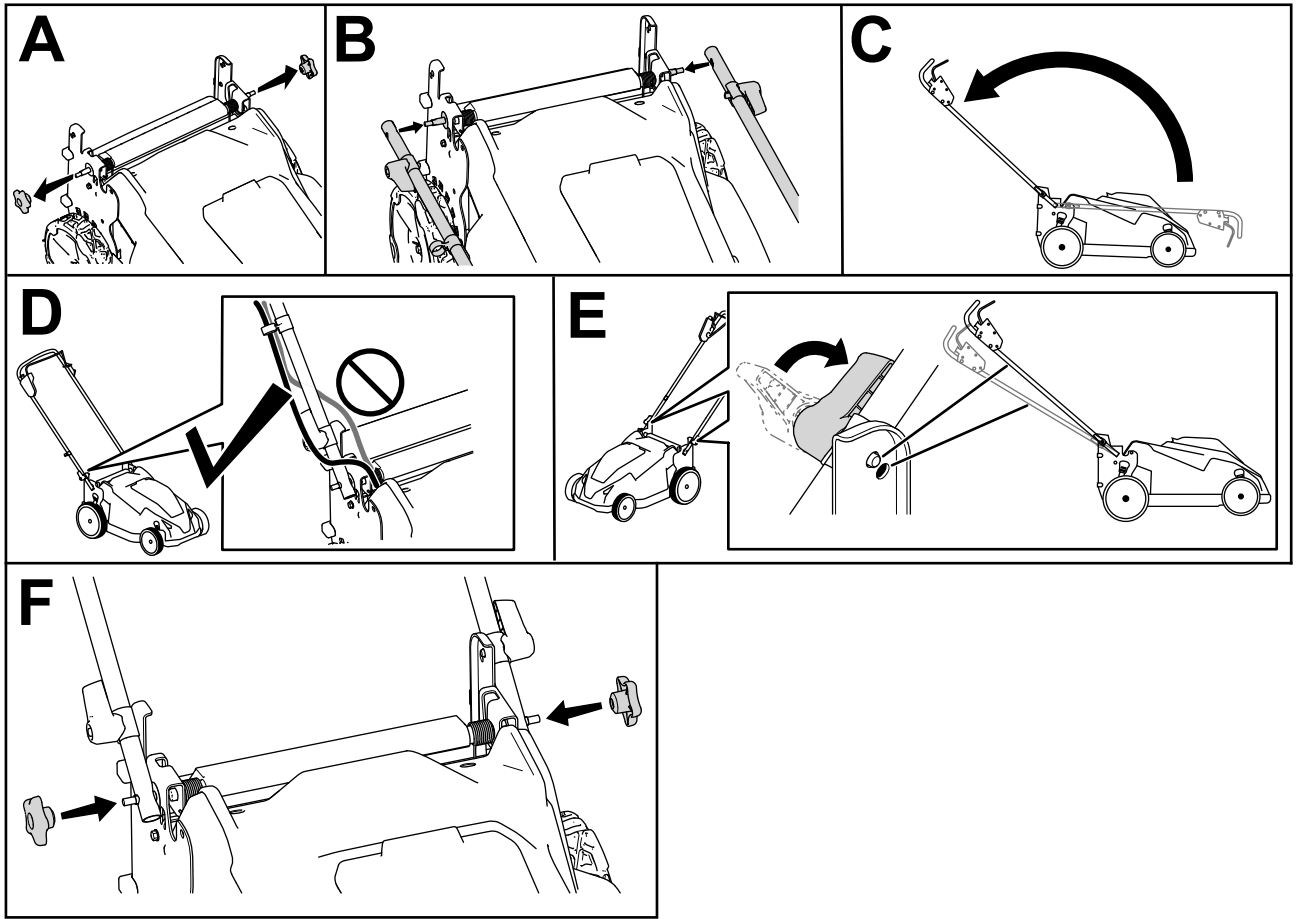

Figure 5
1. Remove the handle knobs (A of Figure 5).
2. Using the holes at the ends of the handle, attach the handle to the machine (B of Figure 5).
3. Move the handle rearward to the operating position (C of Figure 5).
4. Ensure that the cables are routed in front of the handle (D of Figure 5).
5. Engage the handle locks until the pin clicks in place to lock the handle into the operating position (E of Figure 5).
6. Secure the knobs to the handle bolts to secure the handle (F of Figure 5).